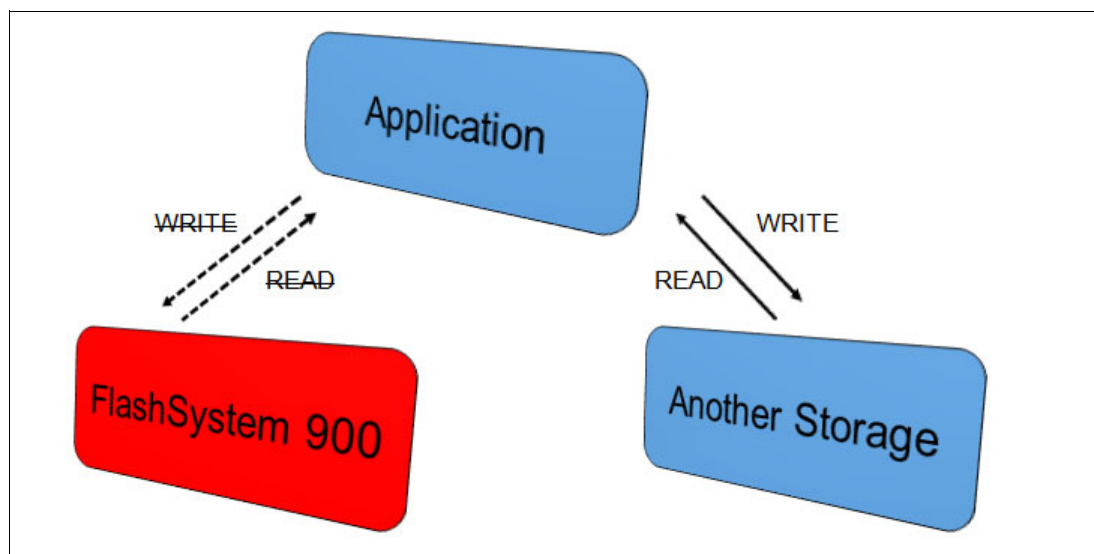

Figure 9-3 Preferred in a disaster situation on the FlashSystem 900
The preferred read solution adds another level of protection, as Figure 9-3 shows. In a disaster situation, for example, if a power failure occurs on the FlashSystem 900 and it becomes unavailable, the application continues to access the data without interruption and without data loss because, in preferred read, all the data will be mirrored (in both storage products).
**Important:** For the situation in Figure 9-3, the FlashSystem is the failed component. An important consideration in a disaster recovery plan is that the other storage can also fail. In this case, the replication is stopped. Consider your plan of action in this situation because preferred read continuously works with the FlashSystem. The suggestion is to set an alert in case one of the components in a preferred read relationship stops responding. Include this scenario in the disaster recovery plan.